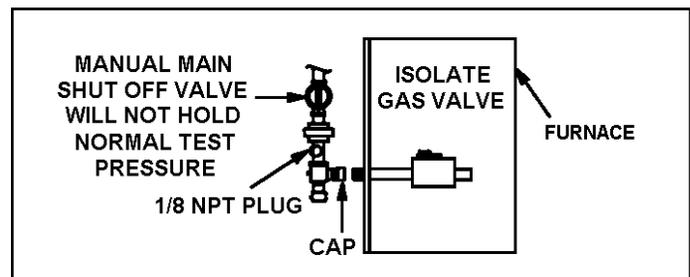

Figure 19
5. A 1/8" N.P.T. plugged tap or pressure post is located on the gas valve to facilitate test gauge connection. See Figure 19.
When testing pressure of gas lines, gas valve must be disconnected and isolated. See Figure 19. Gas valves can be damaged if subjected to pressures greater than 1/2 psig (3.48 kPa, 14 inches w.c.).